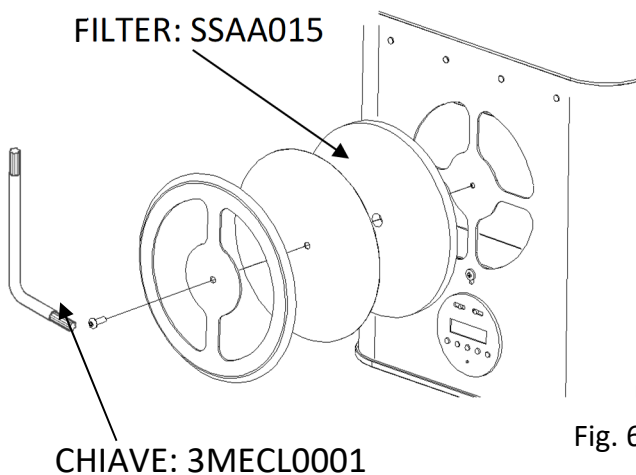
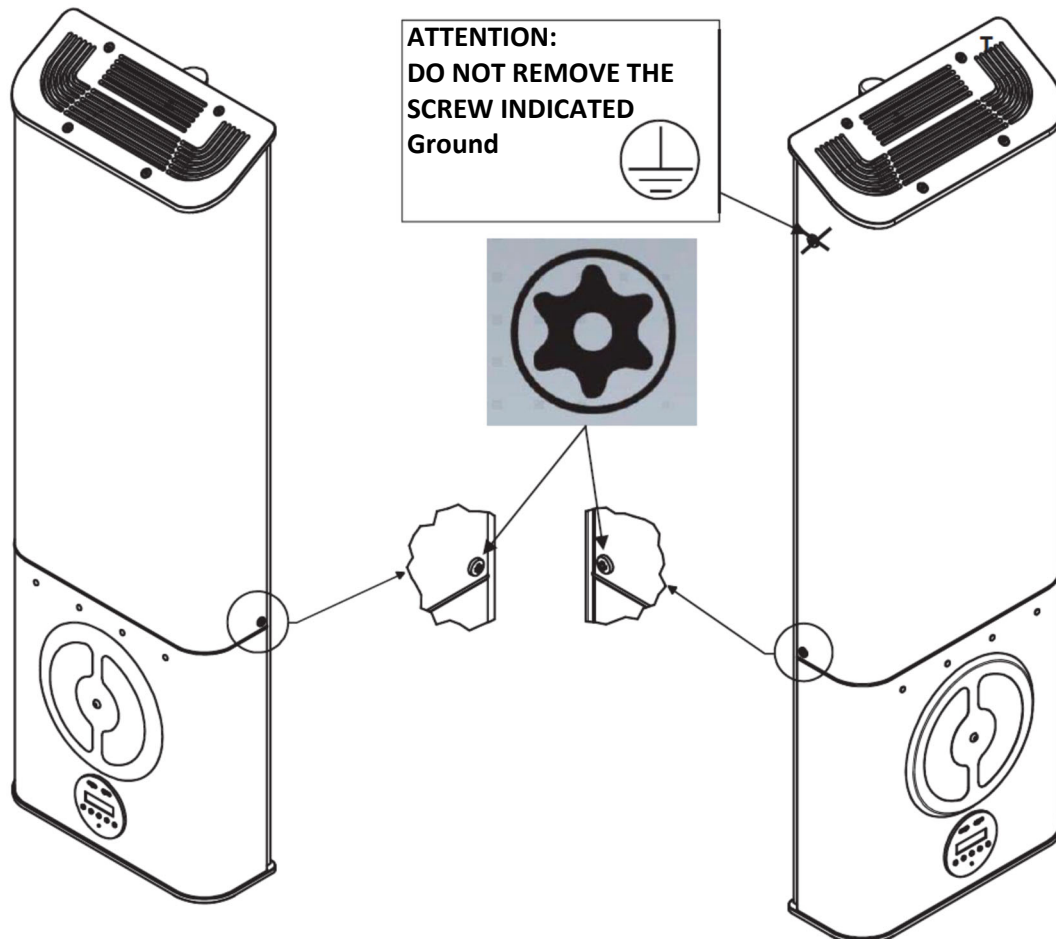

Fig. 6
Fig.8
- 2- Remove the front part of the nozzle where the filter is housed. (Fig.6)
- 4- Replace the front part of the vent in the order shown in Fig.6
1. Take the supplied L-shaped key (3MECL0001) for TORX screws (Fig.6) and unscrew the sides of the casing as shown in Fig.8.